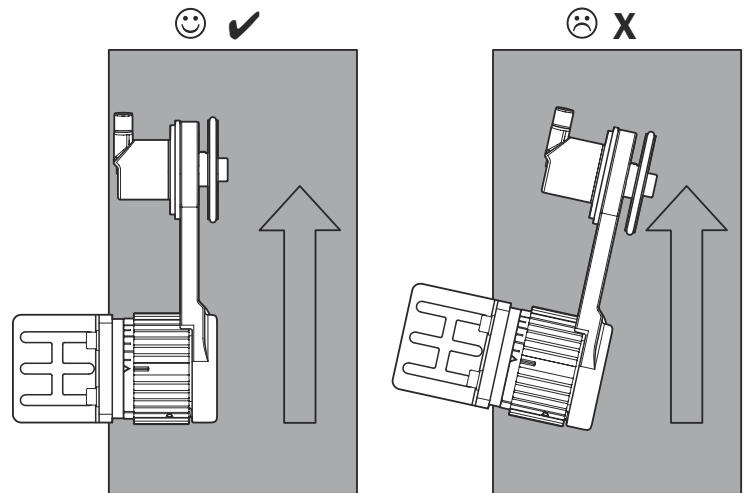

Figure 5: MWS120 mounted aligned with moving direction of the measuring surface
- ▶ When mounted, the device needs to be aligned, with the linear movement to be measured (figure 5). Otherwise the device, or the measured surface, will be destroyed or damaged, or the measuring wheel will wear quickly.